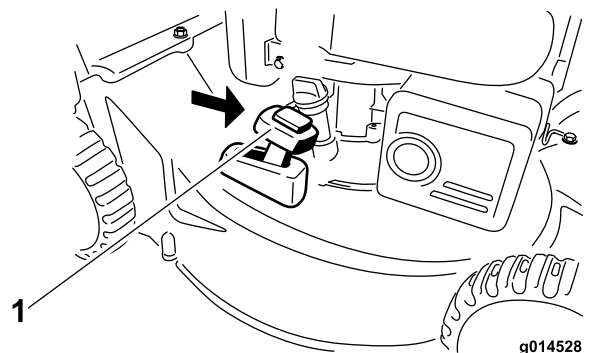

Figure 18
2. Install the grass bag; refer to Removing the Grass Bag (page 11) and move the bag-on-demand lever to the **bagging** mode (Figure 18).
Note: If the grass bag is on the machine, remove it before rear-discharging the clippings; refer to Removing the Grass Bag (page 11). The bag-on-demand lever should be in the **bagging** mode (Figure 18).